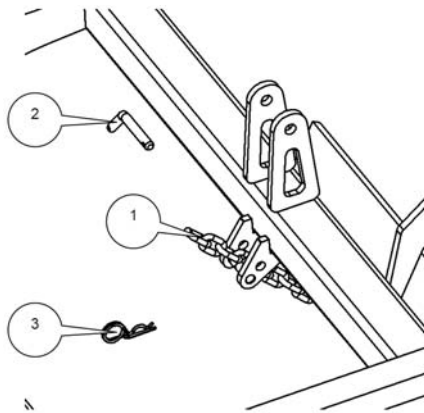

Fig. 20 Rear planning beam adjustment
The beam is suspended on a chain (1) (Fig. 20).